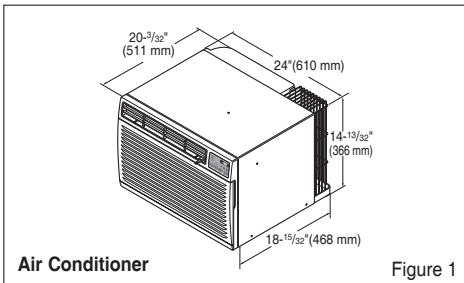

Figure 1
**If you use an existing wall sleeve**, you should measure its dimensions. Install the new air conditioner according to these installation instructions to achieve the best performance. All wall sleeves used to mount the new air conditioner must be in good structural condition and have a rear grille to securely attach the new air conditioner. (Figure 1)